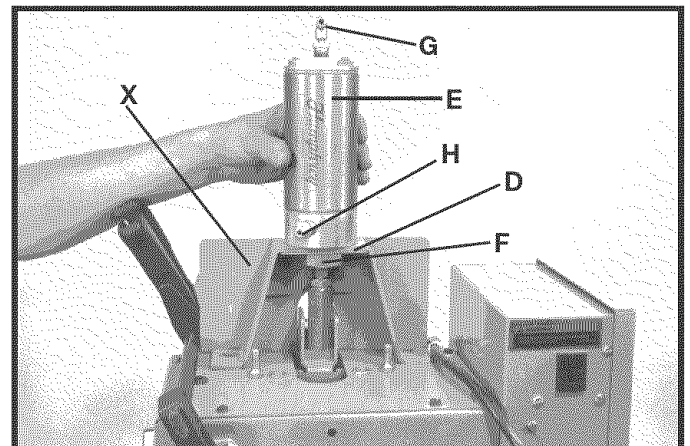

Fig. 26
3. Assemble end of air cylinder (E) Fig. 26, down through hole in top of bracket (D) and through hole in guard that was held in place in **STEP 2**. Using the 1-3/8" hex nut (F), fasten air cylinder in place by turning air cylinder (E) and nut (F). Make certain the guard that was held in place in **STEP 2**, does not contact the head assembly after tightening hex nut (F). **NOTE:** Air fittings (G) and (H) should point to the rear of the machine as shown. Make certain hex nut (F) is positioned so the flat on the nut is parallel to front of support bracket (D).